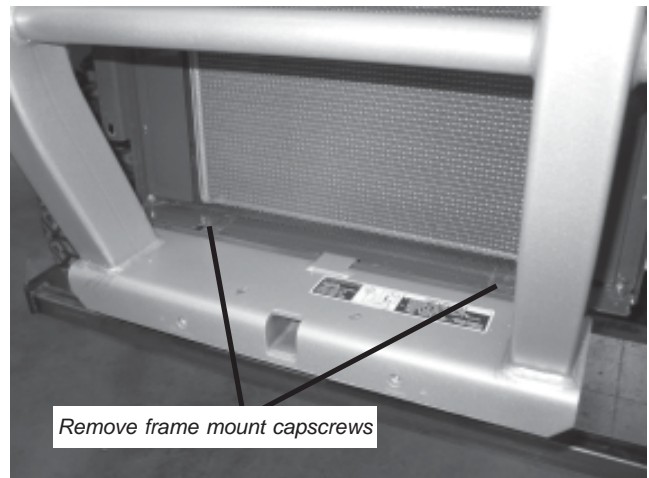

Figure 5
5. After grill is removed, as shown in Figure 5, the front frame mount capscrews can be removed using a 13mm socket.